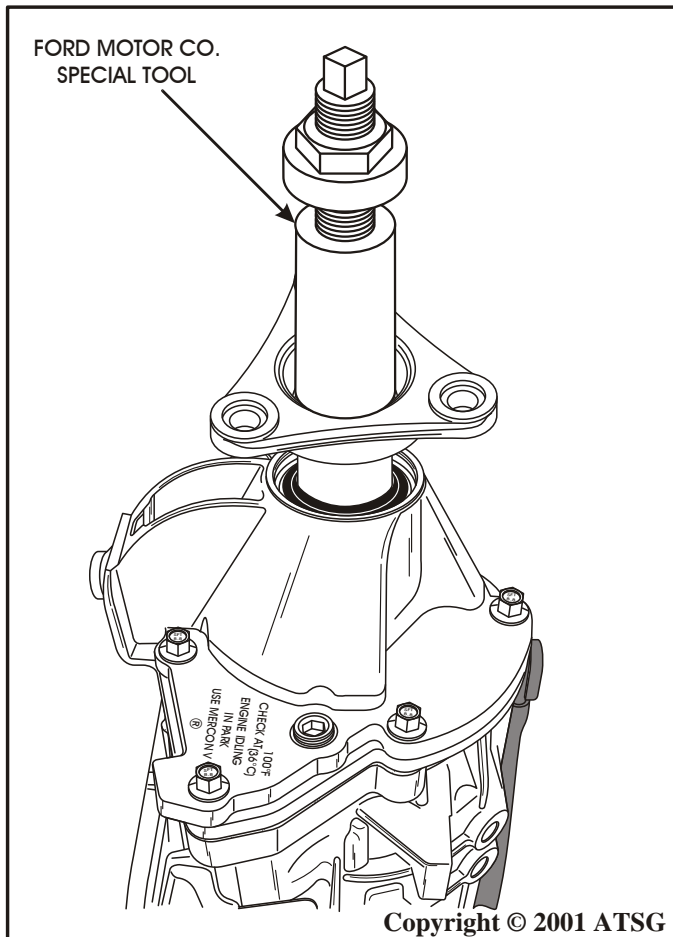

Figure 181
- Caution:** Ford recommends a special tool to install the output flange to avoid damaging any internal parts (See Figure 181).